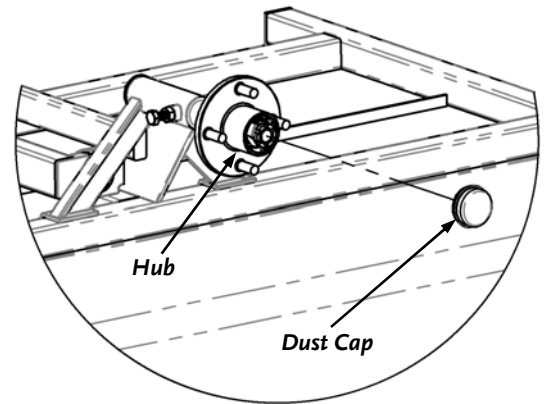

Figure 32
5. Using a Hammer and Flathead Screwdriver, tap the Blade of the Screwdriver into the groove between the Hub and Dust Cap all the way around the Dust Cap with a twisting action of the Screwdriver until the Dust Cap can be removed (**Figure 32**).